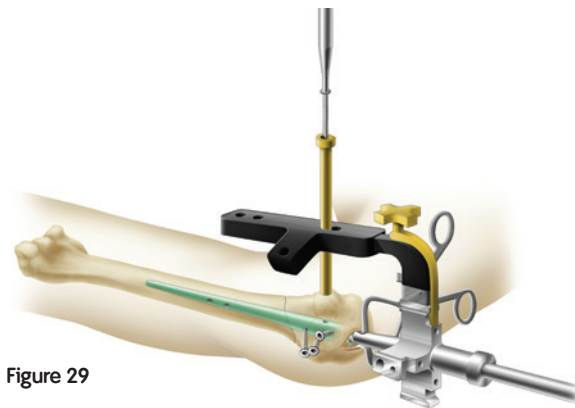
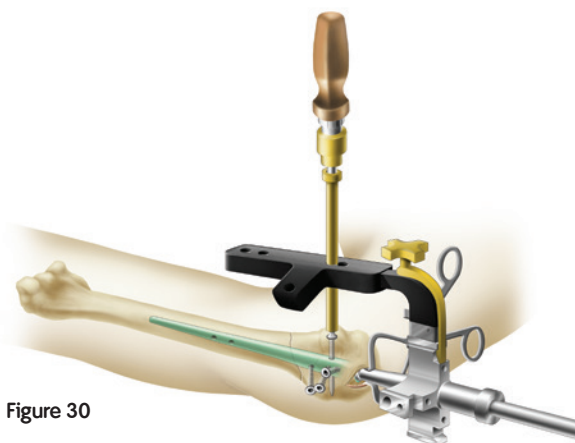

Figure 29
Figure 30
10. Remove the 3.2mm Silver Inner Drill Sleeve and insert the 3.5mm Hex Driver with the appropriate length 5.0mm Cancellous Screw attached (Figure 29). The head of the screw should be nearly seated when the laser marked ring on the 3.5mm Hex Driver is even with the Humeral Gold Outer Drill Sleeve (Figure 30).